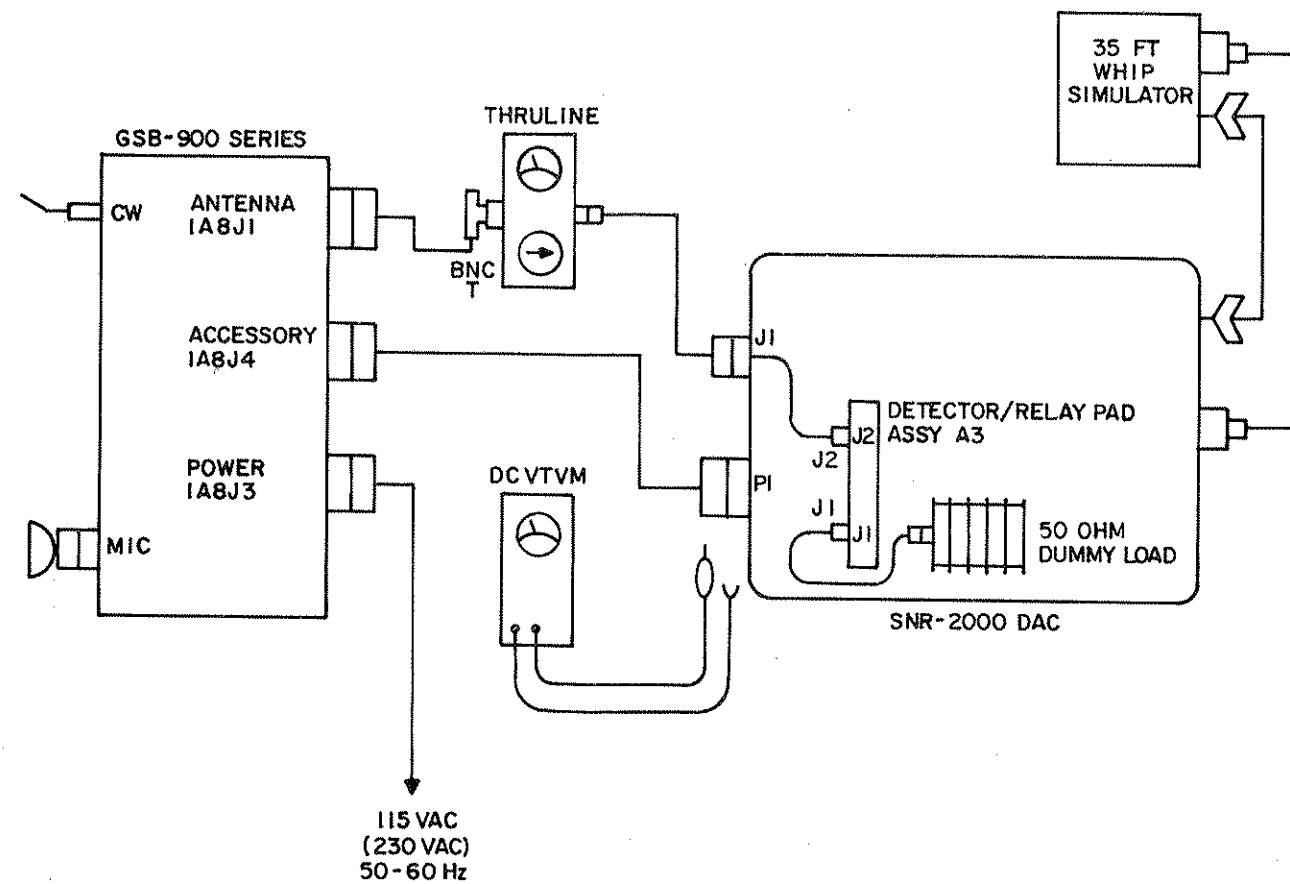

FIGURE 5-7 DETECTOR/RELAY PAD ALIGNMENT SETUP (Forward Power Detectors)
- b. The two (2) ground strap connections and FAN plug P3/P4 to the A3A2 Pad Board (these will be left disconnected during the alignment procedure).
2. Once the A3 board is reinstalled on its extender board, make the following connections for ALIGNMENTS A and B. See Figure 5-7.